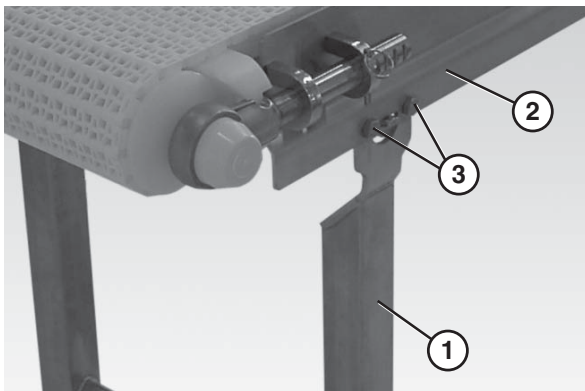

Figure 10
2. Attach the stand (**Figure 10, item 1**) to the conveyor (**Figure 10, item 2**) using four M10-1.5 x 12 mm hex head cap screws (**Figure 10, item 3**).
3. Tighten the stand screws (**Figure 10, item 3**) to 80 in•lb (9 N•m).